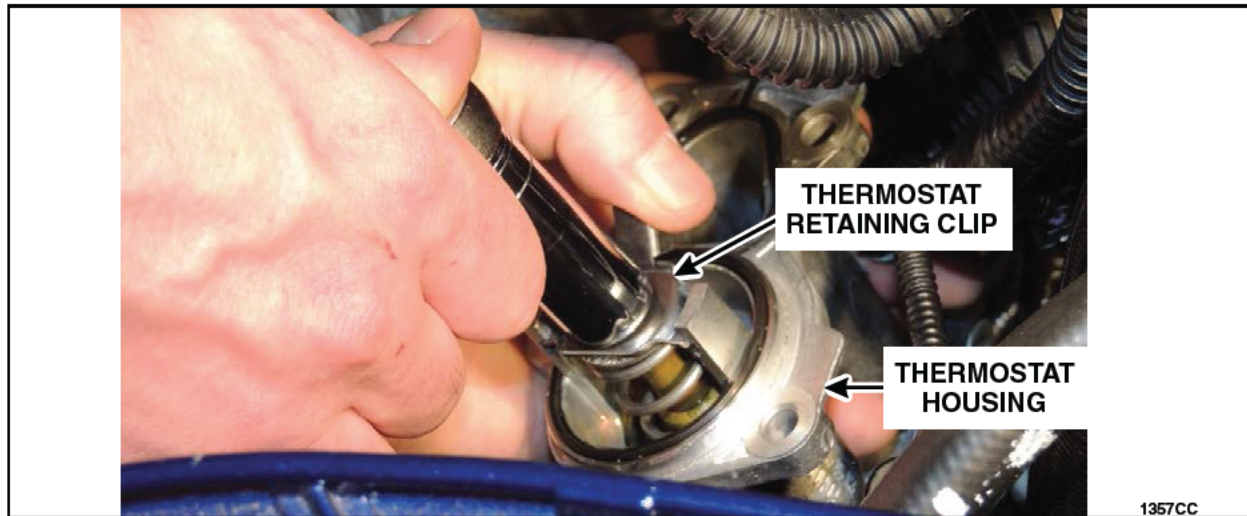

FIGURE G1
- Note the position of the thermostat retaining clip and thermostat prior to removing. See Figures G1 and G2.